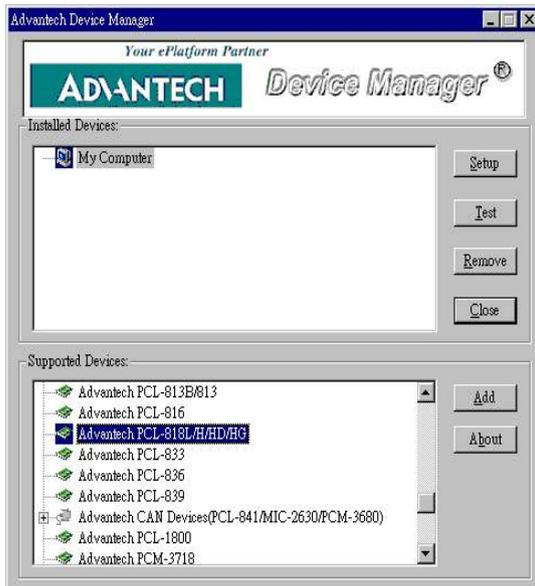

Figure 2.3: Device Manager Dialog Box
Step 2: You can then view the device(s) already installed on your system (if any) on the Installed Devices list box. Since you have not installed any device yet, you might see a blank list such as the one below (Fig. 2-3).